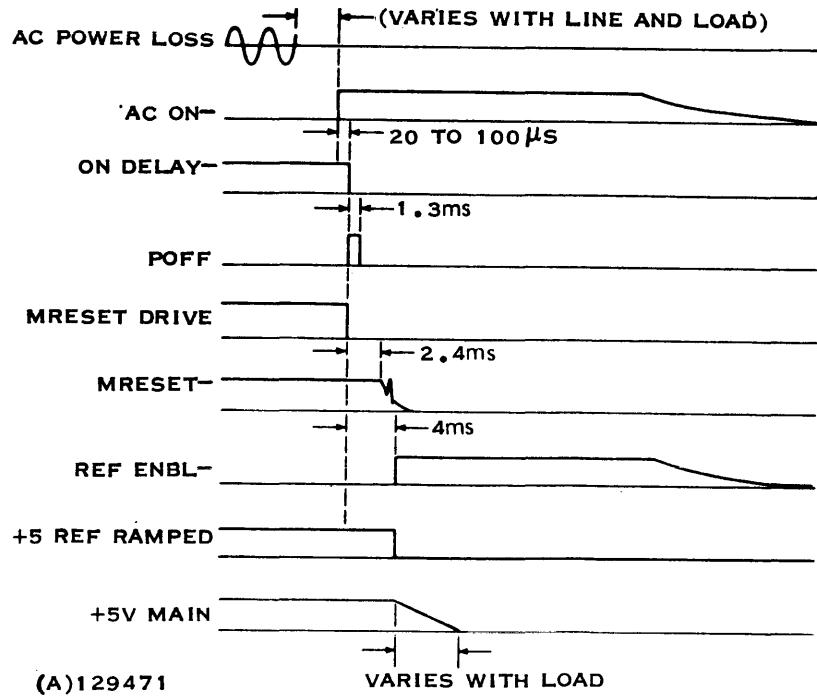

Figure 4-12. Turn-Off Sequence Timing
4.2.1.10 TURN-OFF SEQUENCE. Figure 4-12 illustrates the turn-off sequence waveforms. As soon as the voltage on C1 decreases below +17.5 volts, the ac detect circuit senses ac power loss. The AC ON- signal goes high. The storage capacity of the capacitor on the +35V line is large; therefore, it stays up long enough for all shut-off sequence procedures to occur even for heavy loads.